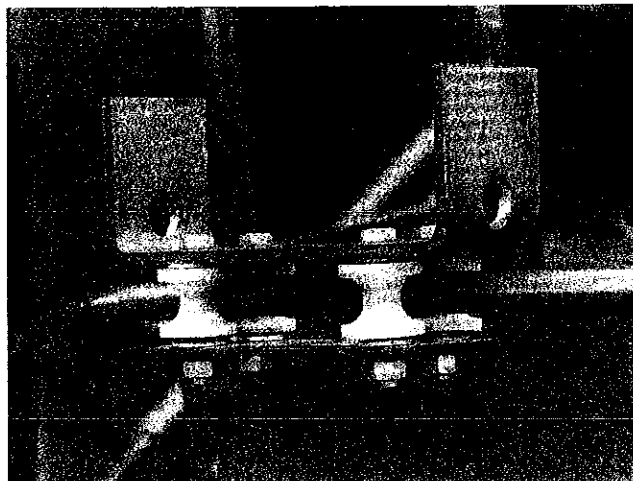

Figure 15 — Drag Roller Support
25. Assemble drag roller support items over drag hanger rod, Item 9, page 17. See Figure 15. Install U bracket, Item 1, page 17, at top, flat bracket, Item 2, page 17, at bottom, with (4) sleeves, (4) rollers and (8) flat washers in between, Items 4, 5 and 6, page 17. A flat washer is placed on each end of sleeves. Use (4) 3/8 x 2-1/2 hex head cap screws, (8) 3/8 flat washers and (4) 3/8 lock washers and hex nuts. Make sure rollers turn free/oil.